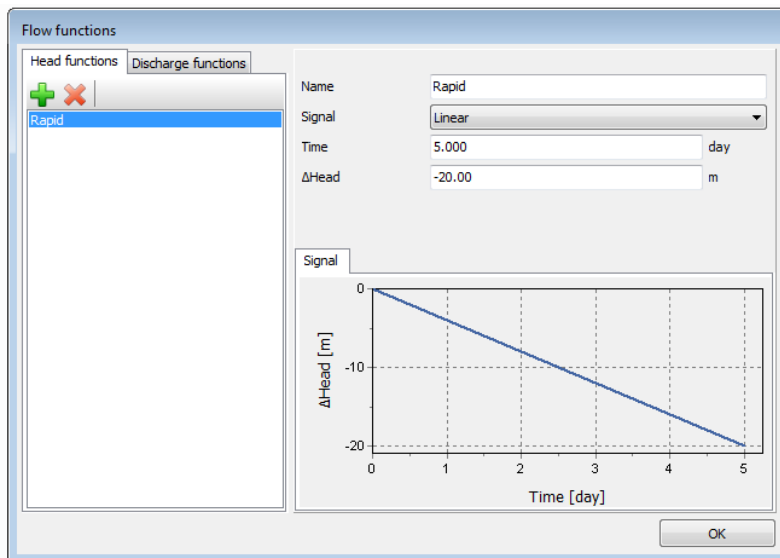

Figure 7.6 The flow function for the rapid drawdown case
- Specify a time interval of 5 days. A graph is displayed showing the defined function (Figure 7.6).